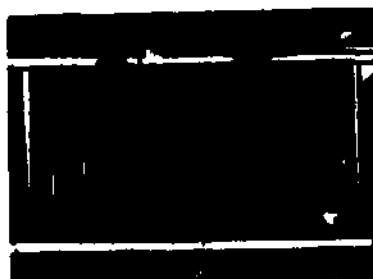

Fig 2-62. Check radiator for obstructions.
b. Obstructions blocking air flow to radiator. The radiator front (fig 2-62) should be visually inspected for leaves, mud, and insects, or bent cooling fins. These obstructions will reduce the cooling efficiency. If dirt is imbedded, first make sure the engine is cool, then use low water pressure to soften the mud. When the mud is soft, it can be removed more easily. It may require the use of air pressure to blow the dirt out. No matter whether air or water or a combination of both is used, they should be directed from the engine side toward the front bumper.
The overflow tube (fig 2-62), which may be a hose or tube, should be checked to insure that it has not deteriorated or been crimped, and that solder joints are tight. A crimp in this hose or tubing will prevent the discharge of coolant in the event the surge tank builds up excess pressure. Radiator caps are equipped with a light chain which must be connected to the cap and eyelet in the surge tank.